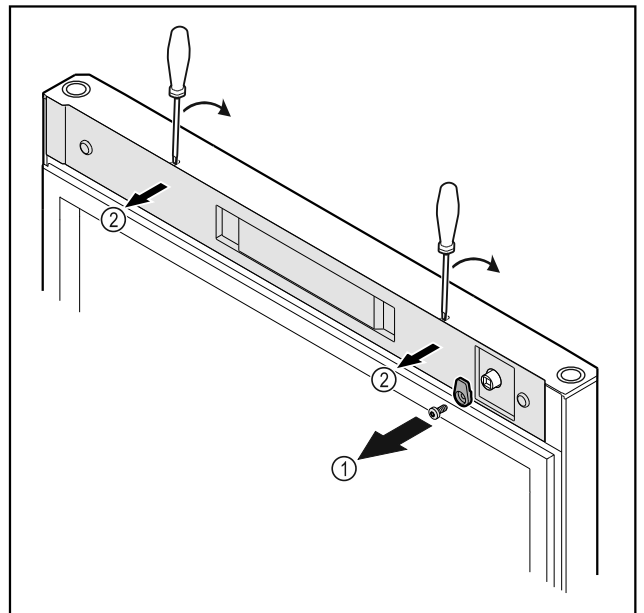

Fig. 12 *
- ▶ Unscrew the door latch Fig. 12 (1)*
- ▶ Unlatch the cover Fig. 12 (2) with a small screwdriver and remove it.*